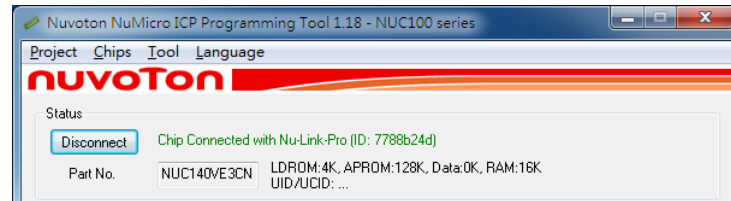
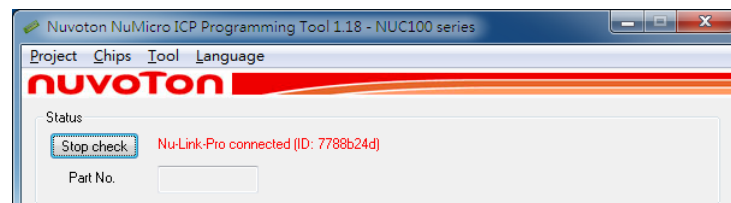

Figure 4-7 Nu-Link Adapter Connected with a Target Chip Detected
Figure 4-8 Nu-Link Adapter Connected with No Target Chip Detected
Step 6a: After the **Connect** button is clicked, the ICP Tool will be connected with the Nu-Link Adapter, and a SWD port will be detected. Figure 4-7 shows that the ICP Tool has been connected with the Nu-Link Adapter and a target chip is detected. At this time, the user can start programming the target chip.
Step 6b: Figure 4-8 shows that the ICP Tool has been connected with the Nu-Link Adapter with no target chip detected. The ICP tool will continue detecting the target chip until the **Stop Check** button is clicked. At this time, the user cannot program any chip, but can use the offline programming to save the offline programming information in the Nu-Link Adapter.
Step 7: Click the **Disconnect** button if programming is not needed (as shown in Figure 4-7). Or click the **Stop Check** button to disconnect the ICP Tool with the Nu-Link Adapter and leave the Nu-Link Adapter unused (as shown in Figure 4-8). As such, the Nu-Link Adapter can be connected with another tool.